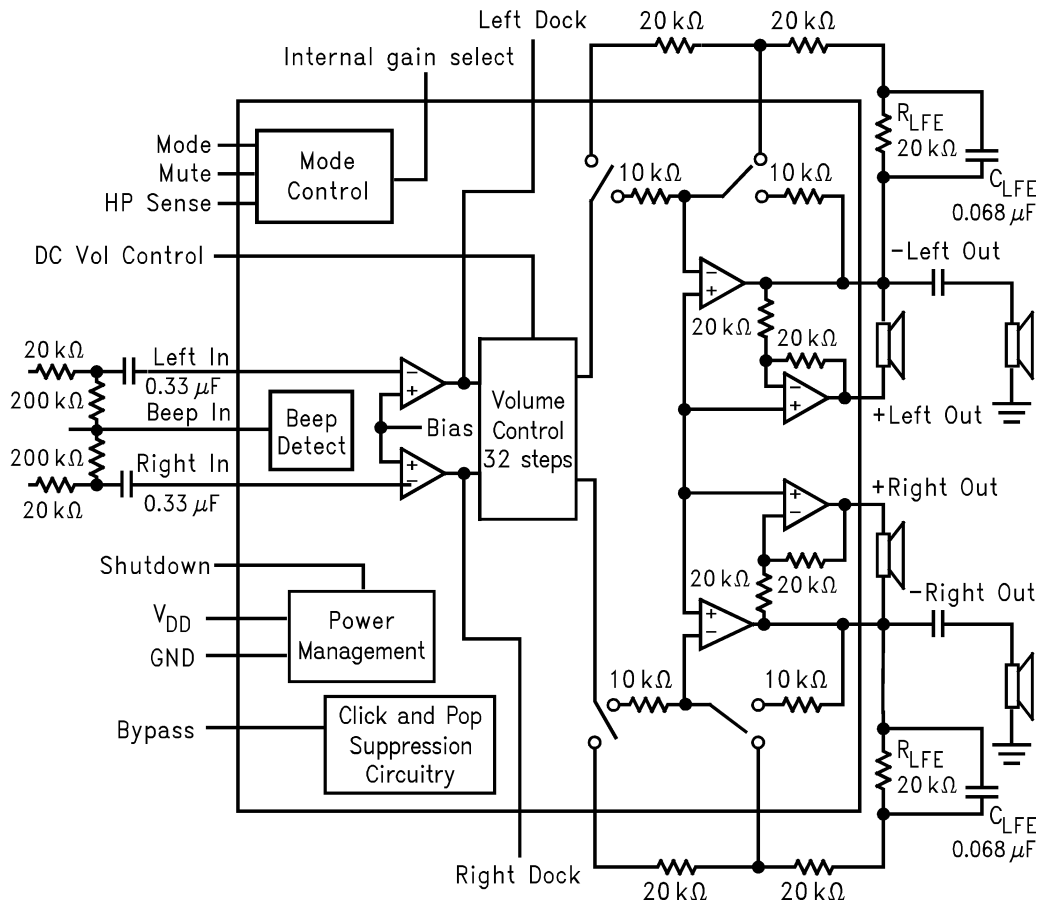

Figure 3. LM4835 Block Diagram
- (1) All voltages are measured with respect to the ground pins, unless otherwise specified. All specifications are tested using the typical application as shown in Figure 3.
- (2) Absolute Maximum Ratings indicate limits beyond which damage to the device may occur. Operating Ratings indicate conditions for which the device is functional, but do not ensure specific performance limits. Electrical Characteristics state DC and AC electrical specifications under particular test conditions which ensure specific performance limits. This assumes that the device is within the Operating Ratings. Specifications are not ensured for parameters where no limit is given, however, the typical value is a good indication of device performance.
- (3) Typical values are measured at $25^\circ C$ and represent the parametric norm.
- (4) Datasheet min/max specification limits are ensured by design, test, or statistical analysis.
- (3) Typical values are measured at 25°C and represent the parametric norm.
- (5) When driving 3Ω loads and operating on a 5V supply, the LM4835MTE must be mounted to the circuit board and forced-air cooled.
- (6) When driving a 3Ω or 4Ω loads and operating on a 5V supply, the LM4835LQ must be mounted to the circuit board that has a minimum of 2.5in² of exposed, uninterrupted copper area connected to the WQFN package's exposed DAP.
- (7) When driving 4Ω loads and operating on a 5V supply, the LM4835MTE must be mounted to the circuit board.